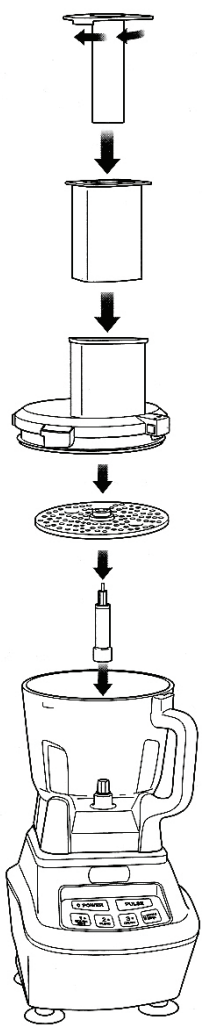

Fig. 5
- Holding the lid by the handle in the upright position, place it on top of the pitcher aligning the arrow (▼) located on the lid with the arrow (▲) located on the pitcher's handle. (Fig. 5) Press the handle down until you hear a click.
- Once you have reached your desired consistency, turn the power button off. Turn the Nutri Ninja® cup counterclockwise and pull straight up to remove. (Fig. 4) (Fig. 5)
- Holding the lid from the feed chute, place it on top of the bowl and turn clockwise aligning the arrow (▼) located on the lid with the arrow (▲) located on the bowl's handle. You will hear a click when the lid is locked in place. (Fig. 5)
Place the motor base on a clean, dry, level surface such as a counter or table top. (Fig. 5)
Place the feed chute lid on the bowl and turn clockwise until you here a click indicating the lid is locked in place. (Fig. 5)
Add the food that you want to slice, shred or grate through the feed chute on the lid. (Fig. 5) Use the two-part food pusher to help guide the food through the feed chute. The middle piece of the food pusher is removable to use for smaller ingredients.